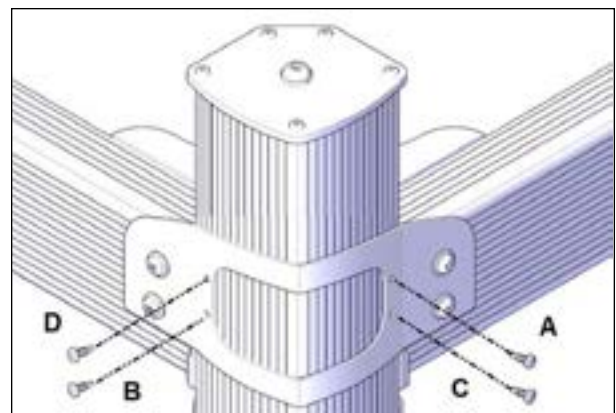

FIGURE 65: INSTALLATION PATTERN FOR CORNER BRACKET SCREWS ATTACHED TO THE SLEEVE
27. Install #8 x 1/2" self-tapping screws (4) to fasten the corner bracket to the sleeve and follow the pattern A to D shown in Figure 65.